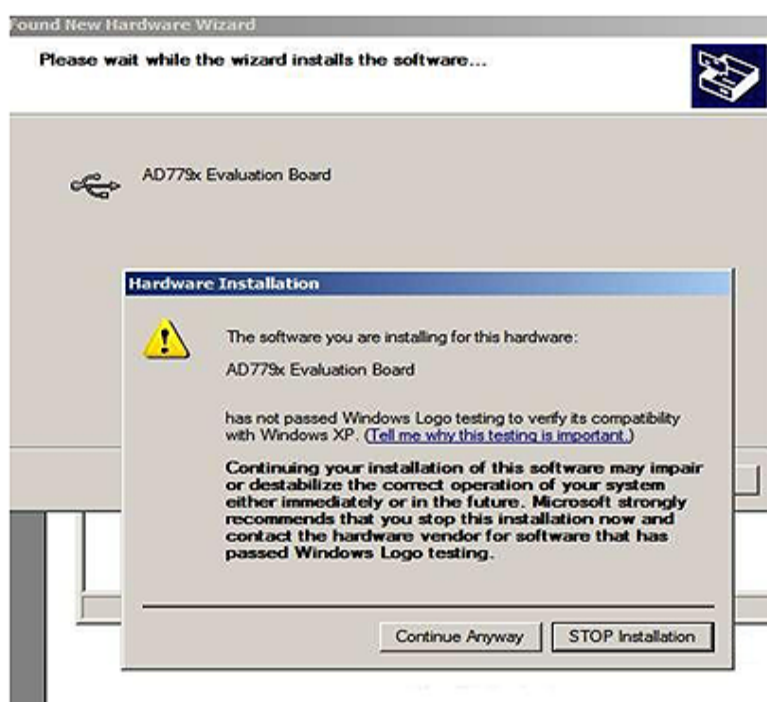

Figure 2. Hardware Installation Window
3. Follow the on-screen instructions that appear. During the installation process, if the **Hardware Installation Wizard** appears as shown in Figure 2, click **Continue Anyway** to complete the installation of the AD7780 evaluation board.